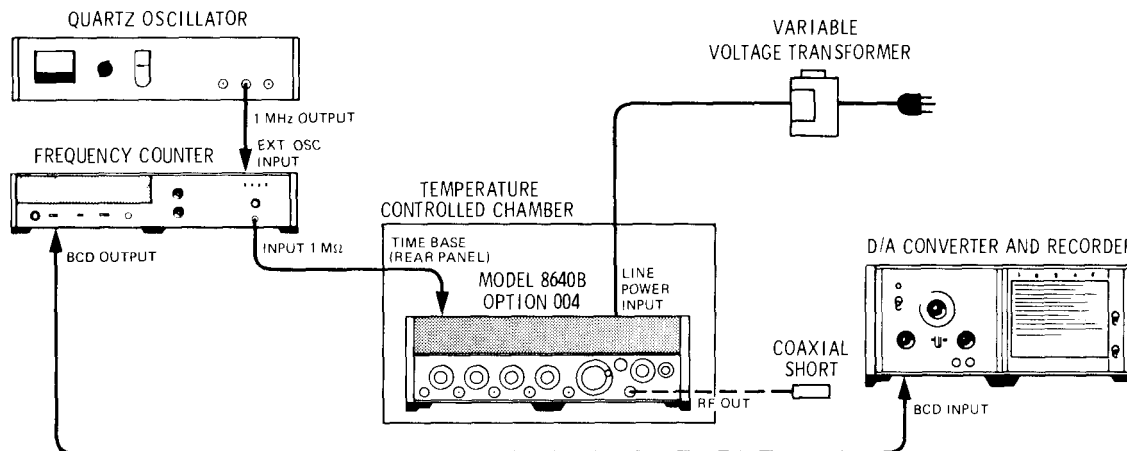

Figure 4-34. Internal Reference Drift Rate (Stability) Test Setup
1. Connect equipment as shown in Figure 4-34 after setting Signal Generator's controls as follows: